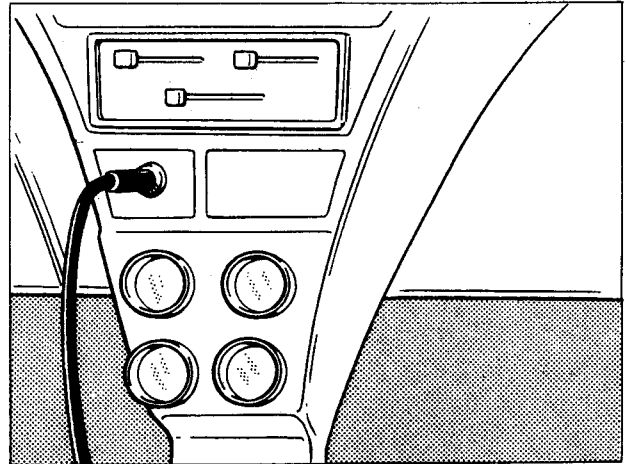

Fig. 6 Use of Cigarette Lighter
2. An alternative way of obtaining power is to plug the cigar lighter arranged in most vehicles. Such a plug, shown in Fig. 6, is available at auto accessory shops or electronics parts stores.